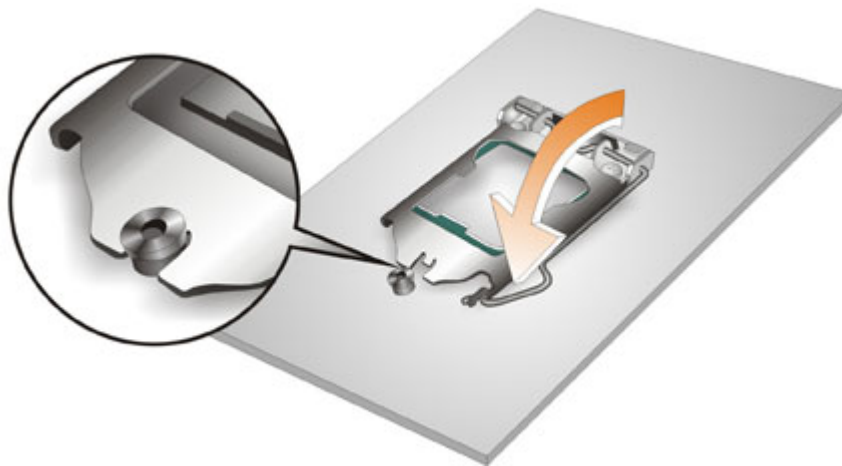

Figure 4-4: Close the Socket LGA1150
Step 8: **Close the CPU socket.** Close the load plate and pull the load lever back a little to have the load plate be able to secure to the knob. Engage the load lever by pushing it back to its original position (**Figure 4-4**). There will be some resistance, but will not require extreme pressure.